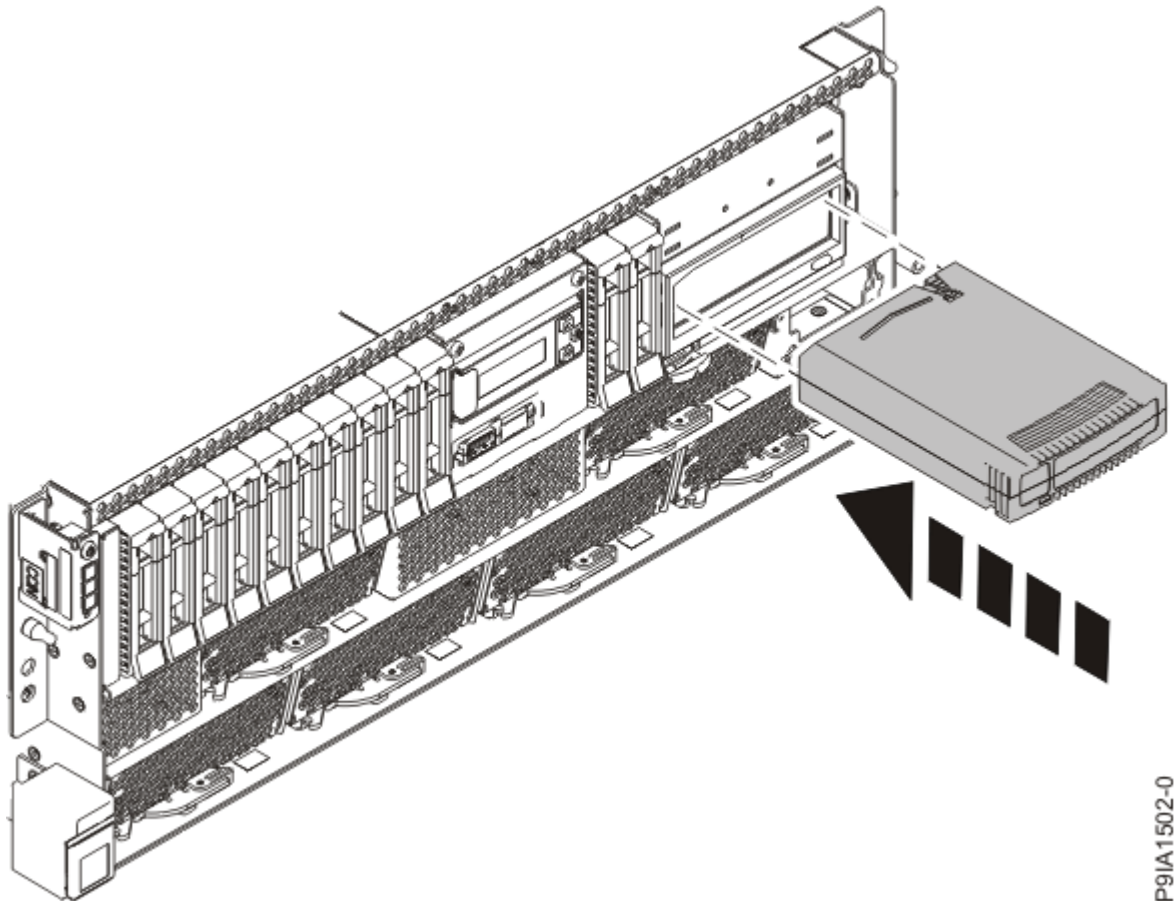

Figure 65. Replacing the internal RDX removable disk drive
2. Insert the internal RDX removable disk drive into the docking station as shown in Figure 65 on page 76.